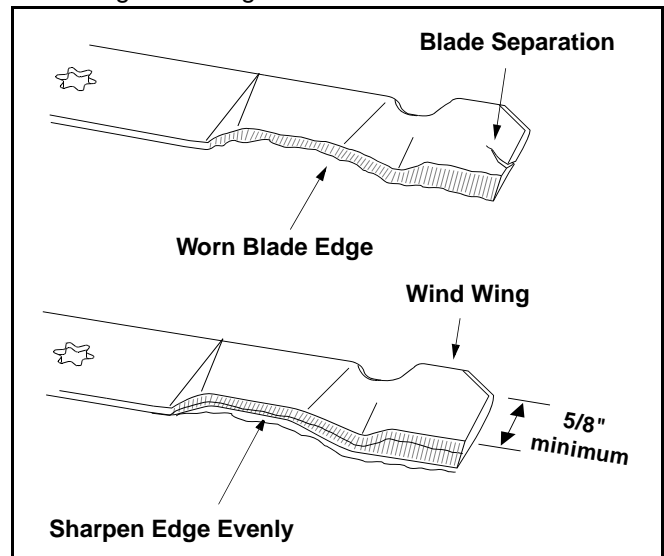

Figure 19
To properly sharpen the cutting blades, remove equal amounts of metal from both ends of the blades along the cutting edges, parallel to the trailing edge, at a 25° to 30° angle. See Figure 19.
**IMPORTANT:** If the cutting edge of the blade has already been sharpened to within 5/8" of the wind wing radius, or if any metal separation is present, replace the blades with new ones. See Figure 19.